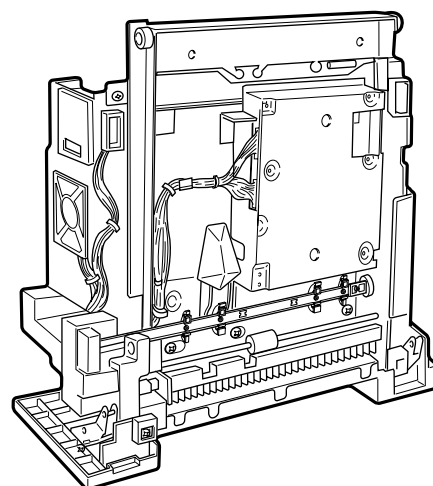

Figure 9-516
- 2) Stand the printer unit in the same way as depicted in Figure 9-516.